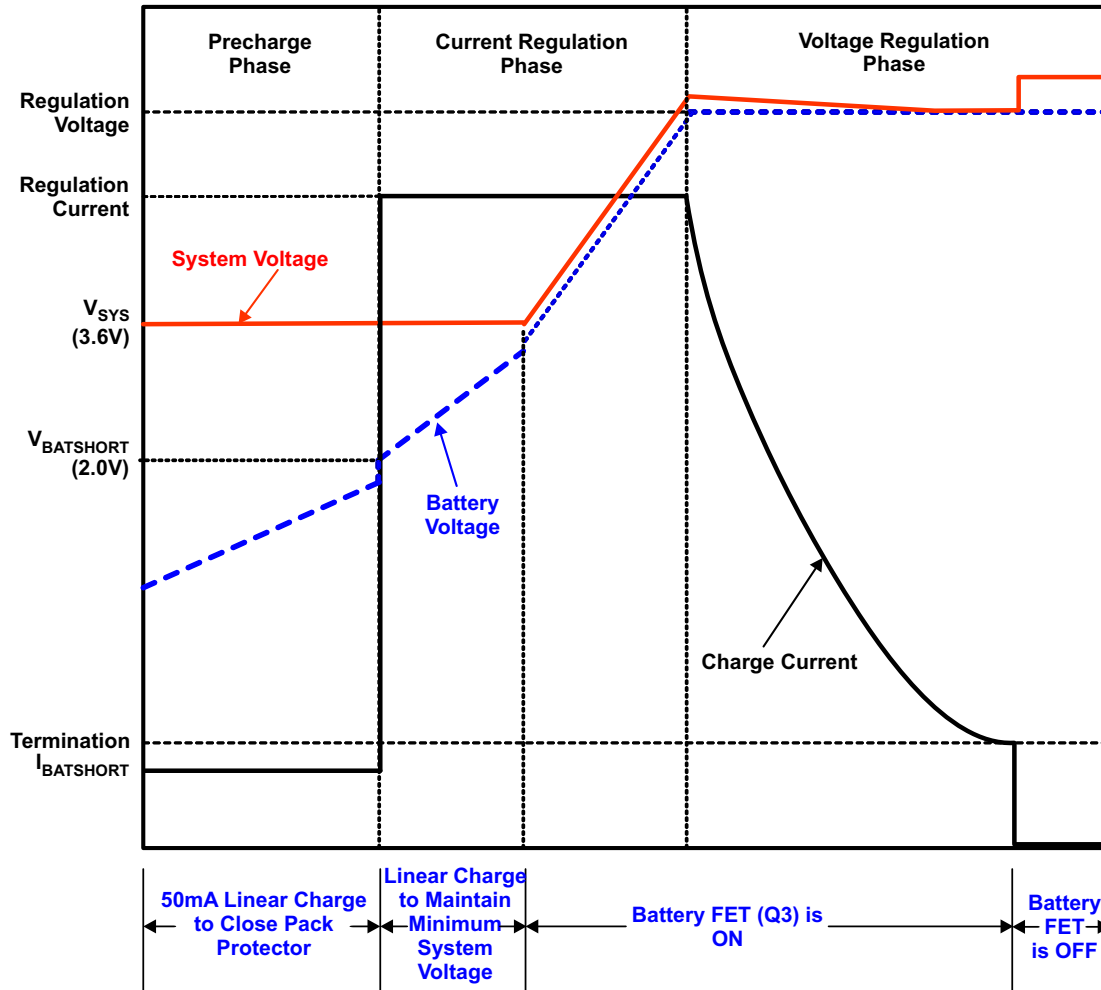

Figure 10. Typical Charging Profile of bq24260/1/1M/2 With Termination Enabled
The bq24260/1/1M/2 supports a precision Li-Ion or Li-Polymer charging system for single-cell applications. Charging is done through the internal battery MOSFET. There are 6 loops that influence the charge current; constant current loop (CC), constant voltage loop (CV), thermal regulation loop, minimum system voltage loop (MINSYS), input current limit and V_{IN-DPM} . During the charging process, all six loops are enabled and the one that is dominant takes control. The minimum system output feature regulates the system voltage to $V_{SYSREG(LO)}$, so that startup is enabled even for a missing or deeply discharged battery. Figure 10 shows a typical charge profile including the minimum system output voltage feature.
Once the battery is charged enough that the system voltage rises above $V_{SYSREG(LO)}$ (approximately 3.5 V), the battery FET is turned on fully and the battery is charged with the full programmed charge current set by the I²C interface, I_{CHARGE} . The charge current is regulated to I_{CHARGE} until the voltage between BAT and PGND reaches the regulation voltage. The voltage between BAT and PGND is regulated to V_{BATREG} (CV mode) while the charge current naturally tapers down as shown in Figure 10. During CV mode, the SYS output remains connected to the battery. The impedance of the battery FET is increased to 4x of the fully on value when IBAT falls below approximately 350 mA to provide increased accuracy during termination. This will show a small rise in the SYS voltage when the $R_{DS(on)}$ increases below approximately 350 mA.